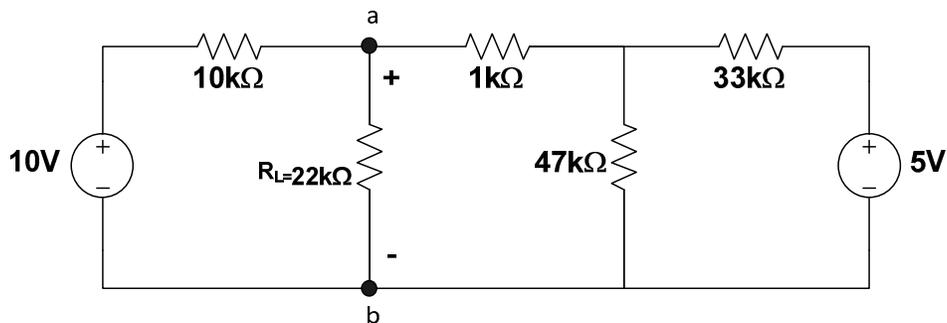

Figure. 1
2. Connect the circuit of Figure.1 and measure  $V_L$  &  $I_L$